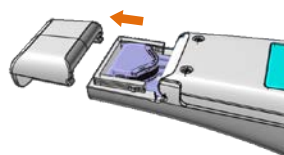

Figure 3
2. Push adaptor cover, as shown in Figure 3.